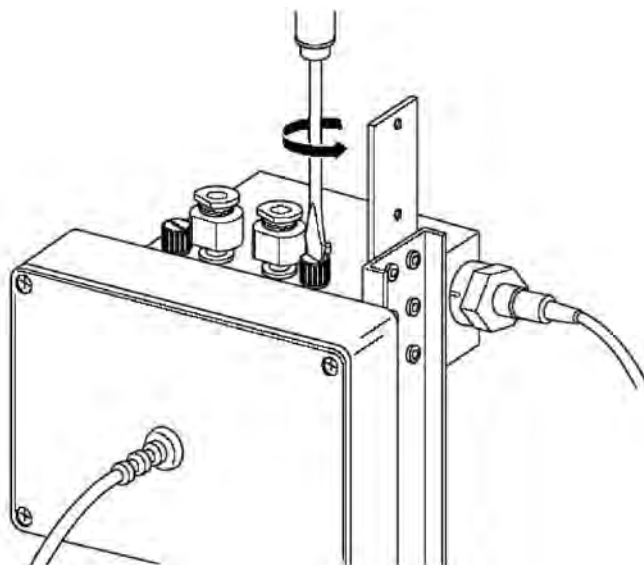

Fig. 13.22. Removing one of two screws holding the flow cell assembly in place.
7. Remove the two screws holding the flow cell assembly using a small flat-blade screwdriver (Figure 13.22).